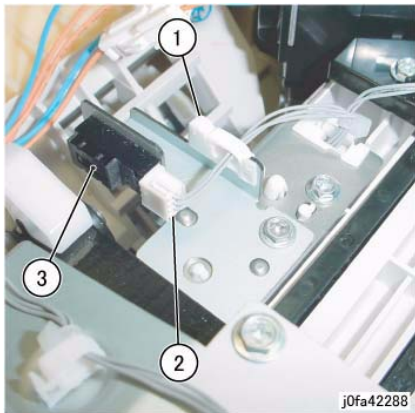

Figure 3 Removing the Eject Home Sensor
7. Remove the Eject Home Sensor (Figure 3):